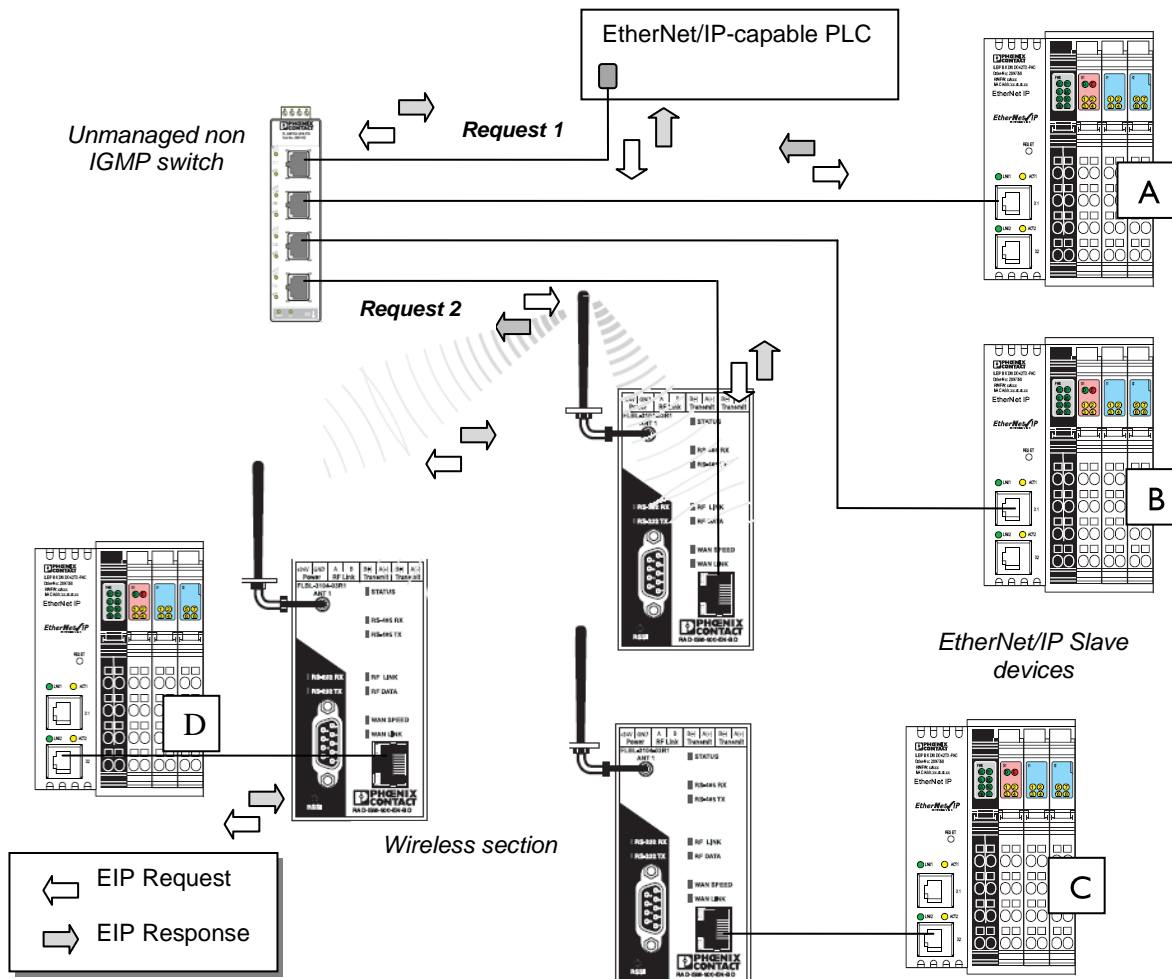

Figure 4: Explicit messaging in an EtherNet/IP network
Figure 4 shows four EtherNet/IP slaves (A, B, C and D) that need to communicate with an EtherNet/IP-capable PLC. Two slaves, D and C, are connected via wireless radios. This example shows explicit messaging. The EtherNet/IP-capable PLC first sends an explicit message (*request 1*) to slave A. This message is a request for specific data needed by the PLC. Since this message is in the form of a unicast frame, it travels only to slave A, and the response from slave A returns only to the requesting PLC. The EtherNet/IP capable-PLC next sends an explicit request to slave D. This request travels only to slave D, and the response returns only to the requesting PLC. Since the unmanaged switch routes unicast frames, the remaining slaves and radios will never see these frames.
If, in this example, the unmanaged, non-IGMP switch were replaced with an IGMP-capable switch, the implicit communication paths would then return to those shown in figure 4. Packets produced by slave device (A) will not be transmitted by the radios.